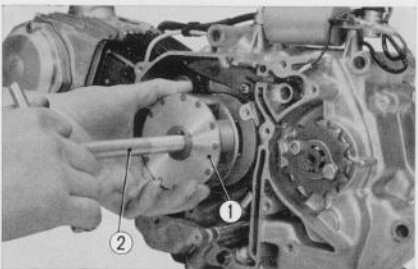

Fig. 3.13 Removing the rotor
3. Remove the rotor ① using a dynamo rotor puller ② (Tool No. 07011-20001). (Fig. 3.13)